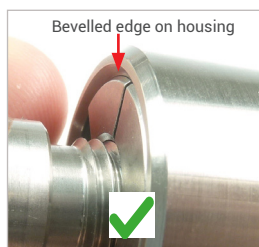

Figure 7
- ▶ Release the hand lever (Pos. 2). The connector tightens itself to the test piece and creates a pressure-tight connection. The plane surface of the clamping jaws is at the same height as the chamfer of the housing (Figure 7).